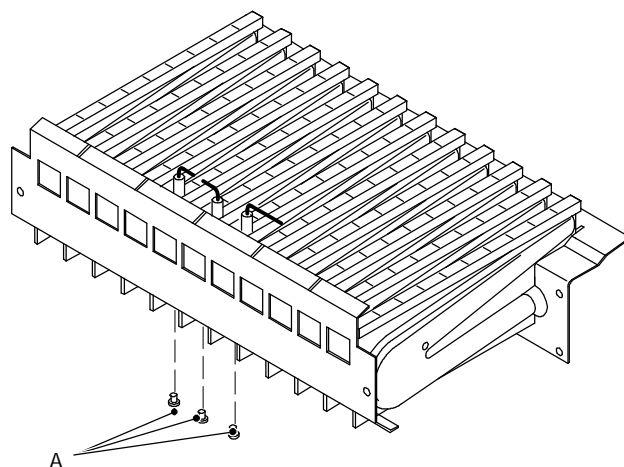

fig. 85
- 4 Unscrew the screws A (fig. 85) which hold the electrodes to the burner.